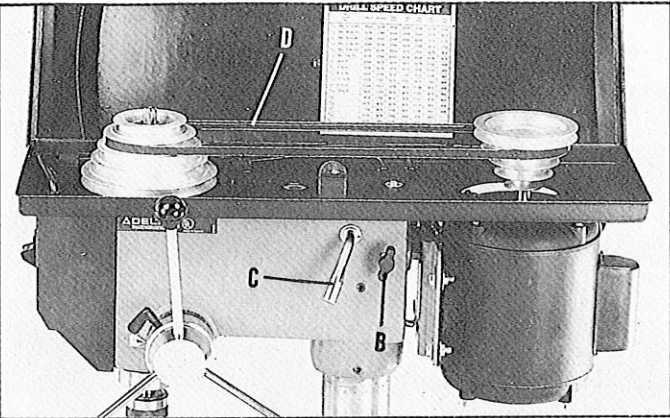

Fig 23
5. After the belt is positioned on the desired steps of the motor and spindle pulleys, move tension lever (C) Fig. 23, to the rear until the belt is properly tensioned and tighten tension lock knob (B). The belt should be just tight enough to prevent slipping. Excessive tension will reduce the life of the belt, pulleys and bearings. Correct tension is obtained when the belt (D) can be flexed about 1" out of line midway between the pulleys using light finger pressure.